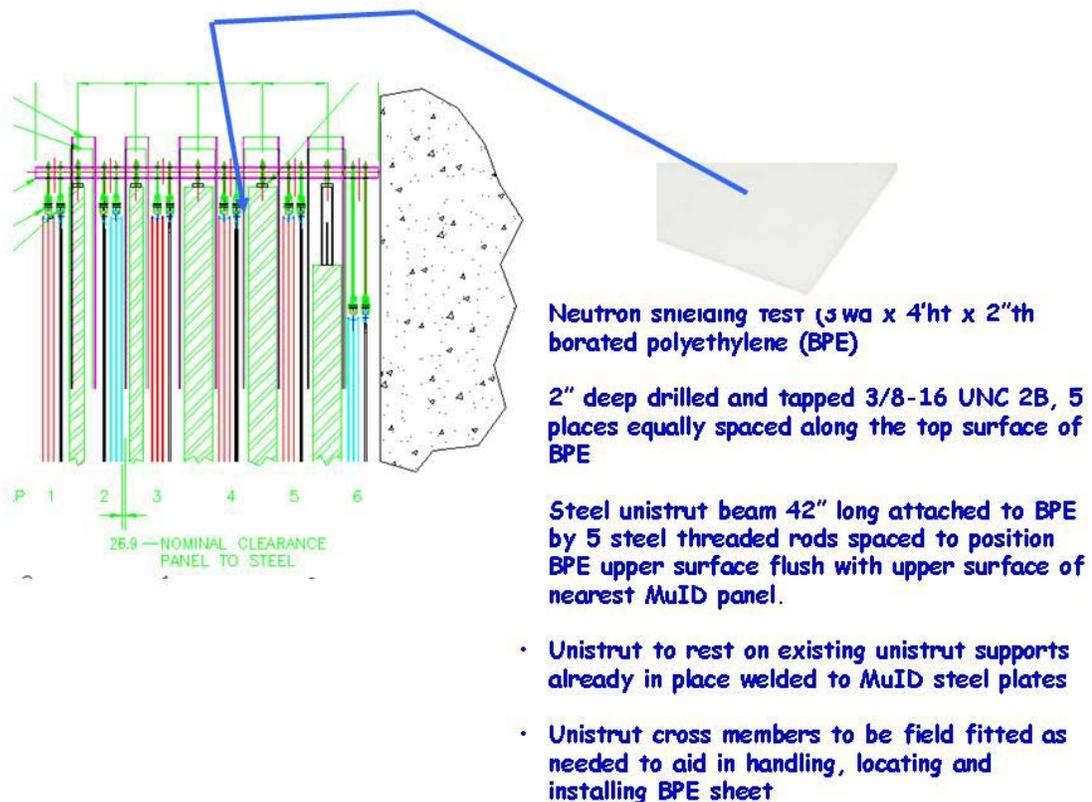

Figure 1: BPE Installation
1. Assemble the BPE shield and support structure as indicated in figure 1